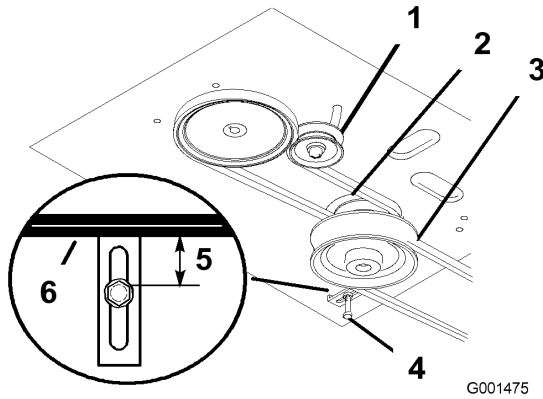

Figure 37
- Remove the mower belt; refer to Replacing the Mower Belt (Figure 37).
- Loosen the pivot bolt enough to slide the idler pulley in the slot and remove the traction belt from the engine and the drive pulleys (Figure 37).
- Install the new drive belt around the engine and the drive pulleys (Figure 37).
- Slide the idler pulley in the engine frame to tension the traction belt (Figure 37).
- Install the mower belt (Figure 37).
- Check the belt guide under the engine frame for the proper adjustment (Figure 37).